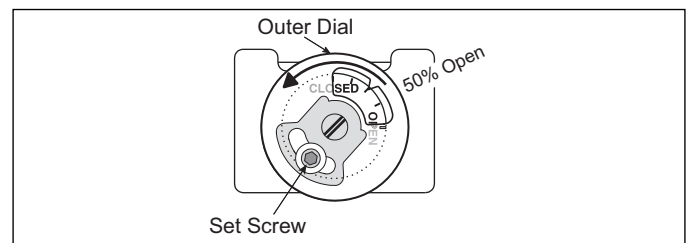

Figure 4.3. Manual Gas Butterfly 50% Open
- Set the manual gas valve at each burner to 50% open. See Figure 4.3. If using an adjustable limiting orifice valve, set it at 5 full 360° rotations up from the bottom.